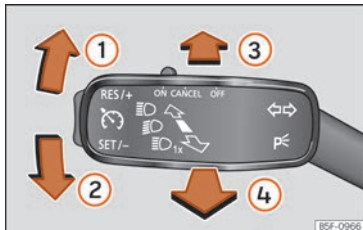

Fig. 116 Turn signal and main beam lever.
- From the base position, press the turn signal and main beam headlights lever forwards » **Fig. 116**  When the lamp  is displayed on the instrument panel display, the main beam assist is switched on.
- **OR:** while the main beam is on, pull the turn signal light and main beam headlights lever forwards » **Fig. 116** .